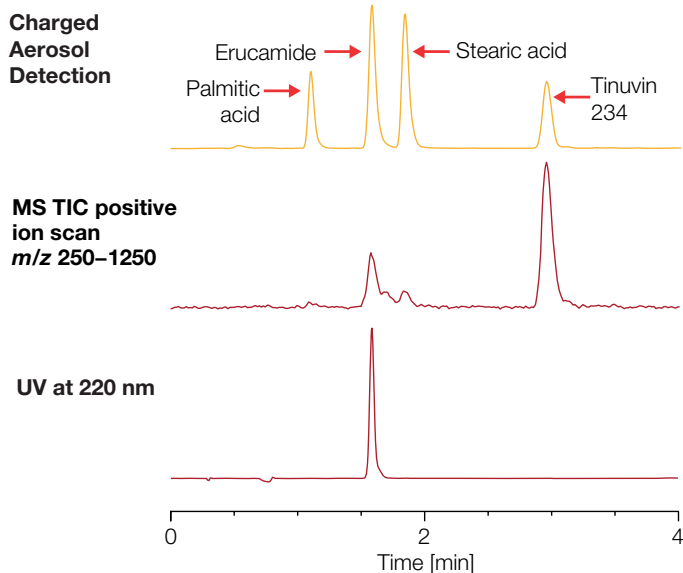

Figure 1. The near-universal detection capability of the CAD.
Unlike mass spectrometry (MS) and UV, the CAD can measure all analytes in a sample (Figure 1). MS requires the analyte to form gas phase ions, while response by a UV detector depends upon the presence of a chromophore.